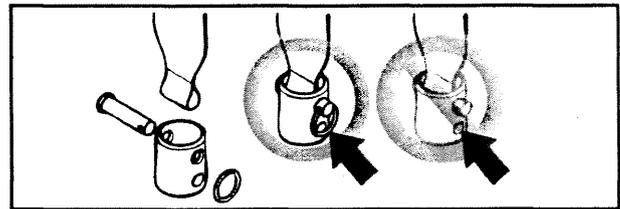

Fig. 7
Also make sure that the spreader bar is correctly attached to the ceiling lift. See Fig. 7.
**WARNING: Before using the Voyager Duo, always ensure the strap attachment pin is installed correctly through the spreader bar socket and lift strap, and that the split ring is correctly inserted through the hole in the pin (see Fig. 7) on page 15.**